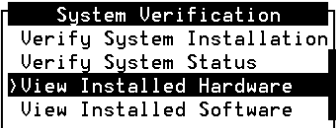

Figure 5-5. System Verification Menu
6. Press **F6** (Cancel) to return to the System Verification menu (Figure 5-5).
1. Start at the System Verification Menu (Figure 5-5) and select
3. Press **F6** (Cancel) to return to the System Verification menu (Figure 5-5).